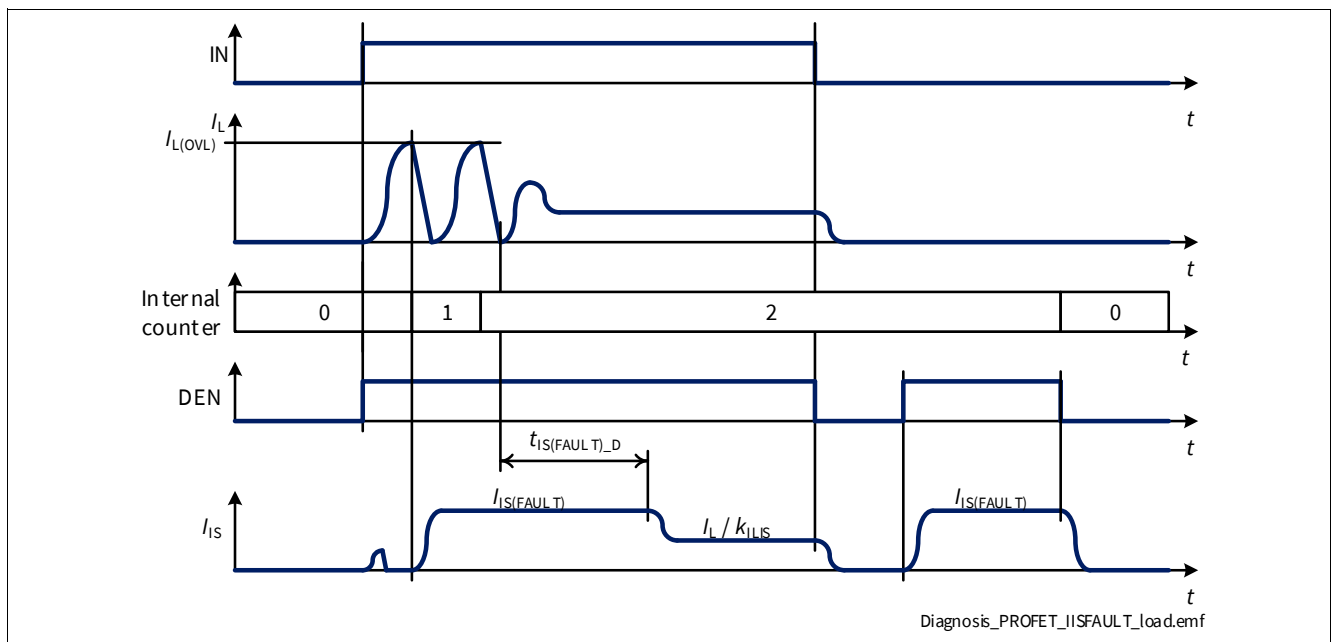

Figure 34 $I_{IS(FAULT)}$ at Load Switching
- If the channel is ON and the number of retries is lower than “ $n_{RETRY(CR)} + n_{RETRY(CYC)} * n_{RETRY(NT)}$ ”, the current $I_{IS(FAULT)}$ is provided for a time $t_{IS(FAULT)_D}$ after the channel is allowed to restart, after which $I_{IS} = I_L / k_{ILIS}$ (as shown in **Figure 34**). During a retry cycle (while timer t_{RETRY} is running) the current $I_{IS(FAULT)}$ is provided each time the channel diagnosis is checked